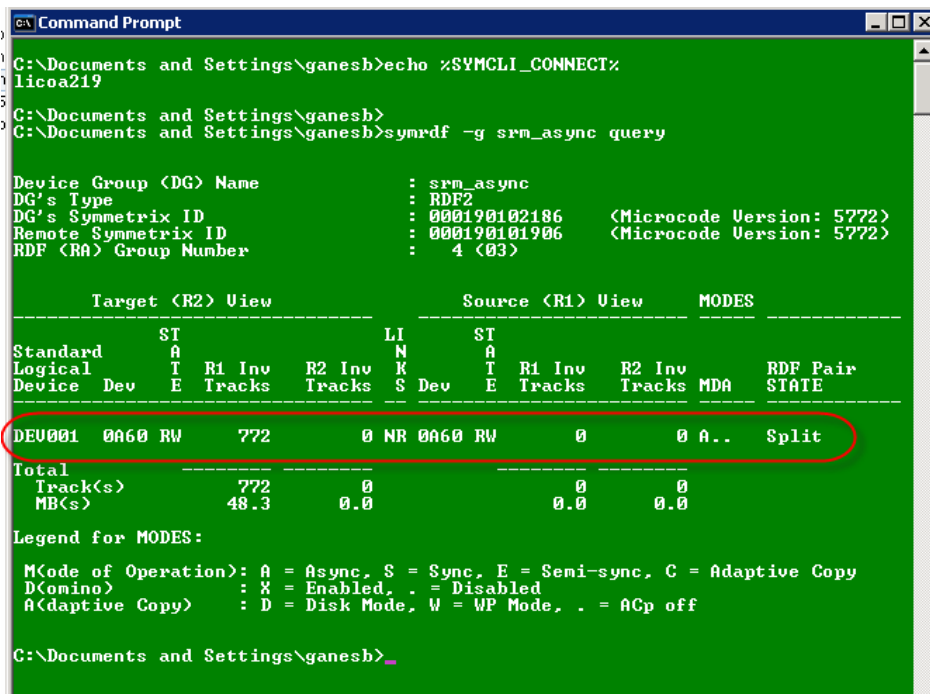

Figure 30. The state of the SRDF device pair after restoration of the DMX array at the protection site
1. On the recovery site, ensure that the RDF state for the devices that would be failed back is in a “Split” state. An example is shown in Figure 30. Please contact EMC support if any other state is reported. Furthermore, do not continue with the rest of the procedure if the state of the device pairs is different.